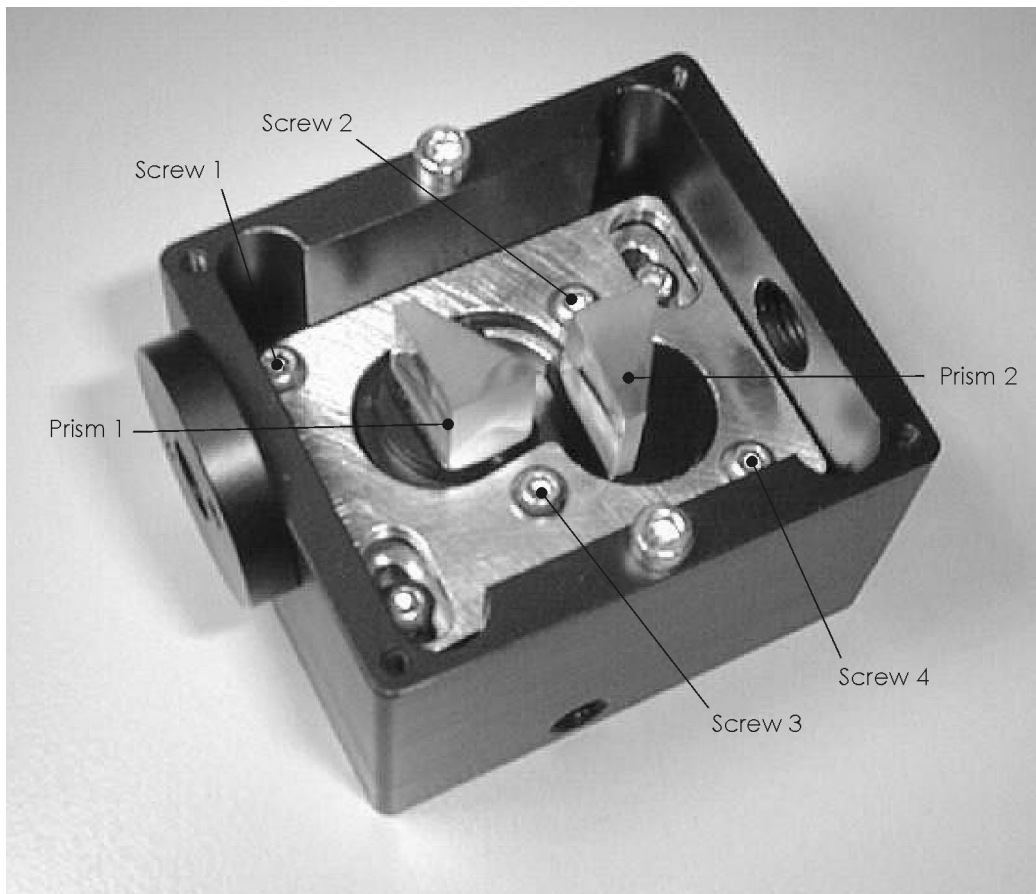

Figure 3 Inside view of the Variable Anamorphic Prism Pair
- 2.2 Loosen Screw 1 (see Figure 3) and carefully loosen Screws 2 and 3 until Prism 1 can be rotated with a small force.